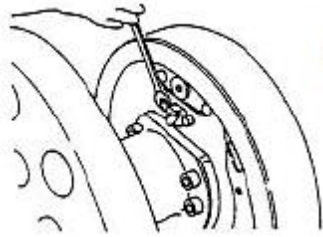

Figure 5
(5) Remove the brake pipe from the brake cylinder ,then remove the mounting bolts of the brake cylinder and remove the brake cylinder from the brake base.as figure 5